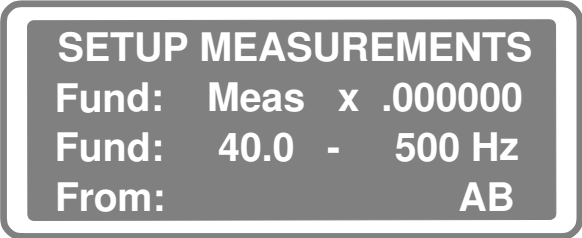

Figure 11. Setup Measurements Display
- 3. The first four display lines of the SETUP MEASUREMENTS menu show the fundamental frequency measurement type, range, and input source menu. See Figure 11.